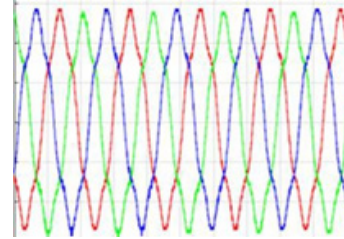

Figure 30: Harmonics in Phase with Fundamental
- If the BEMF voltage has peaks in the shape of Figure 30, set BEMF\_COMP\_PHASE to 0°.